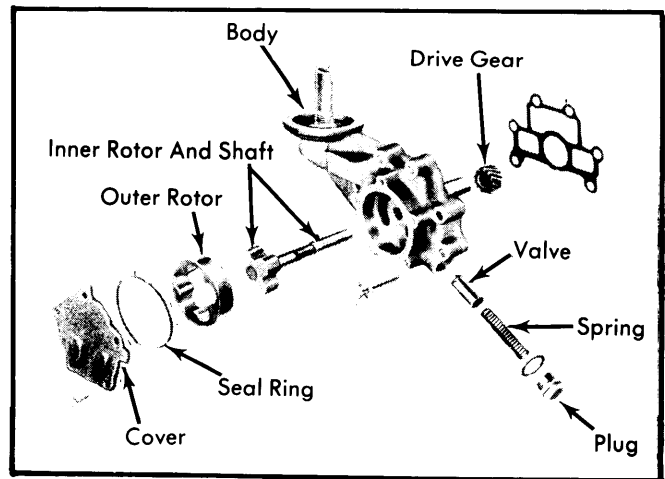

Fig. 16 Exploded View of Oil Pump Assembly
**Disassembly** — Remove pump cover and seal ring. Press off drive gear while supporting gear to eliminate load on aluminum body of pump. Remove outer rotor and inner rotor with shaft. Remove oil pressure relief valve plug, spring and valve. See Fig. 16.